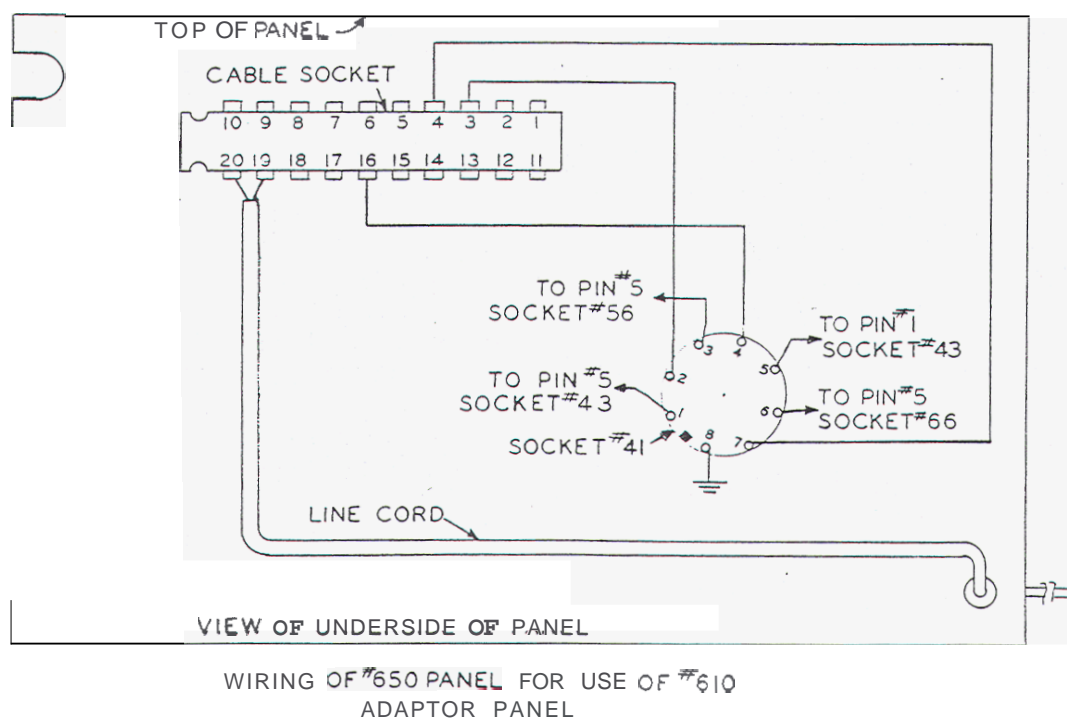

Fig. 2
Socket 41 should be wired as shown in Fig. 2.
- ☐ 1. Connect a 16½" piece of #22 insulated wire from pin #3 of the 83 rectifier socket to pin #17 of the inter-chassis cable connector. Both are located on the main panel. The socket terminals *for* both the main panel and the left hand panel inter-chassis connectors are numbered in the same manner. This is shown in Fig. 2 of your 610-650 instruction sheet. Solder both connections.
- ☐ 2. Connect a 11" piece of #22 insulated wire between pin #8 of the 024 socket to be wired, to pin #17 of the inter-chassis cable connector on the left hand panel. Again refer to Fig. 2 of the 610-650 instructions for numbering sequence. Solder both connections.